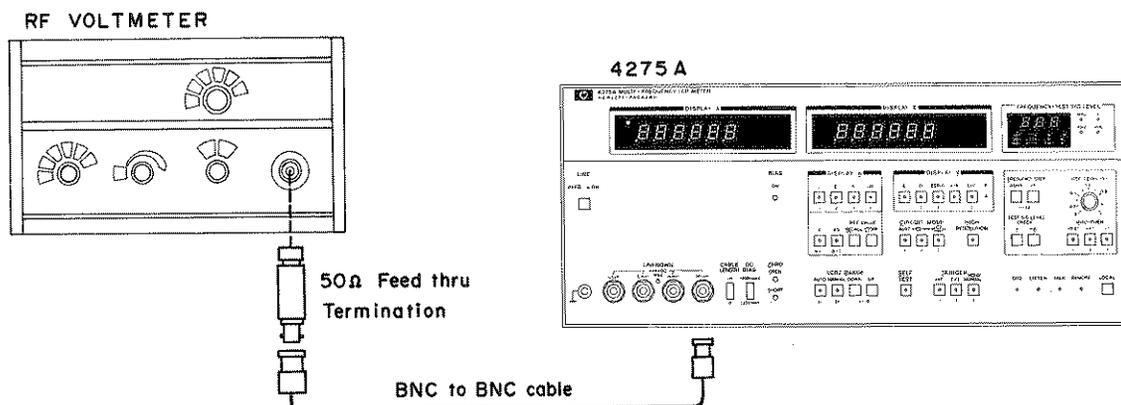

Figure 5-4. Test Signal Level Flatness Adjustment Setup.
1. Connect a 50Ω feed through termination between 4275A UNKNOWN H CUR terminal and RF voltmeter input using a BNC to BNC cable. See Figure 5-4.